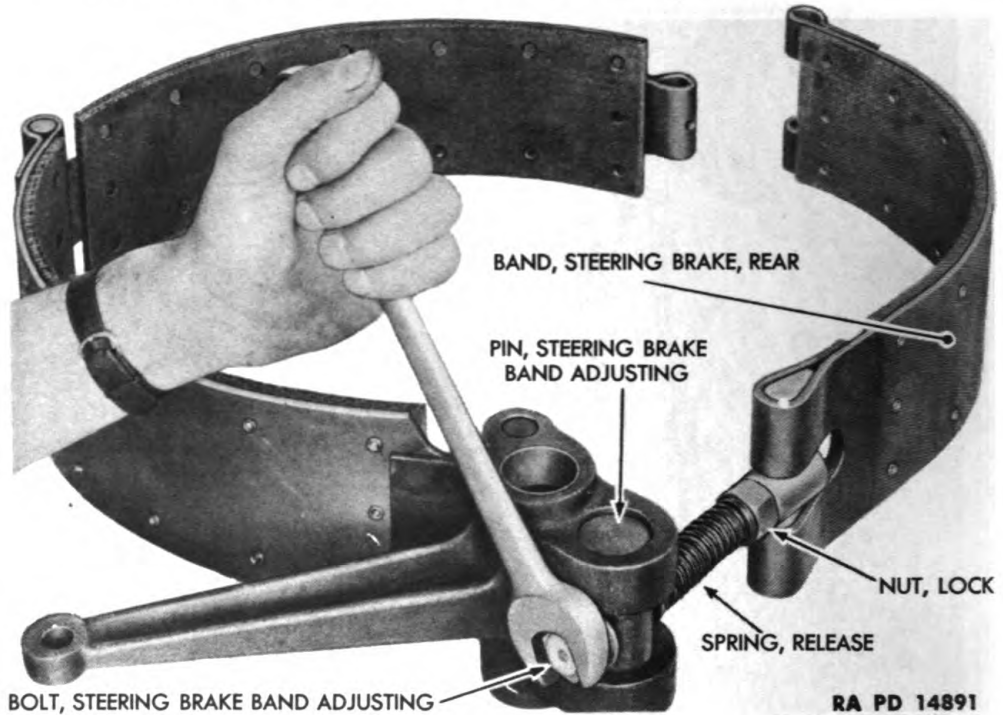

Figure 76 — Steering Brake Band Adjustment Bolt Removal
(1) REMOVE STEERING BRAKE BAND ADJUSTING BOLT (fig. 76).
(4) INSTALL STEERING BRAKE BAND ADJUSTING BOLT (fig. 76).